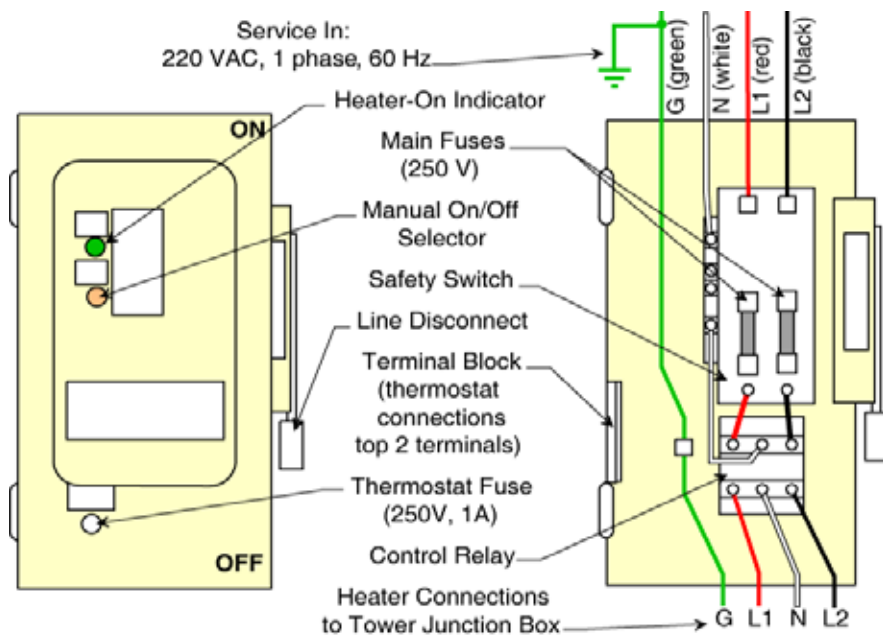

Figure 12. Shively De-Icer Control Box Layout
- f. Furnish a main control box as shown in Figure 12.
- h. Wire the thermostat and the main control box as shown in Figure 12 on page 16.